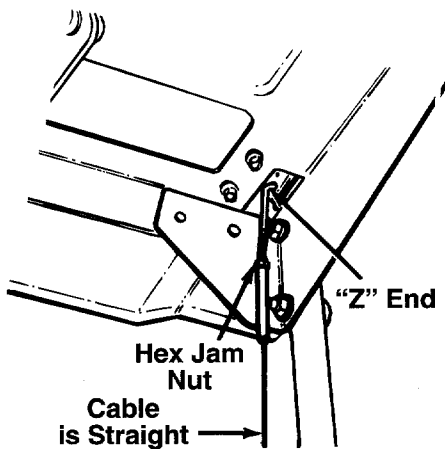

FIGURE 9.—Viewed from underside of handle panel.
- See figure 9.
If necessary, loosen the hex jam nut and thread the cable in or out as necessary. Refer to figure 9. Recheck the adjustment. Tighten the jam nut against the cable when correct adjustment is reached.